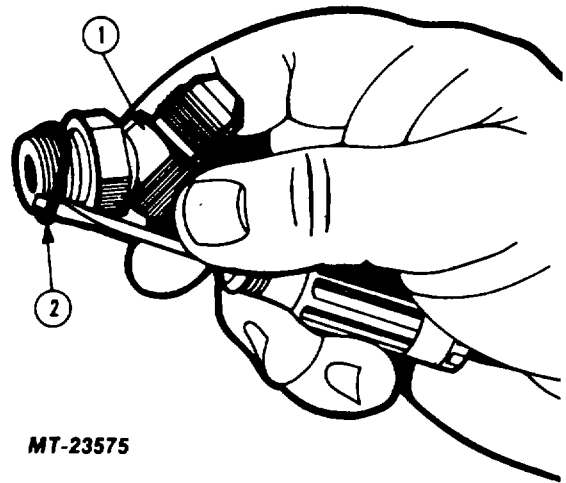

Fig. 39 Discharge Fitting 4-Ring
14. Install new O-ring on discharge fitting (Figure 39) and install fitting in housing finger tight.